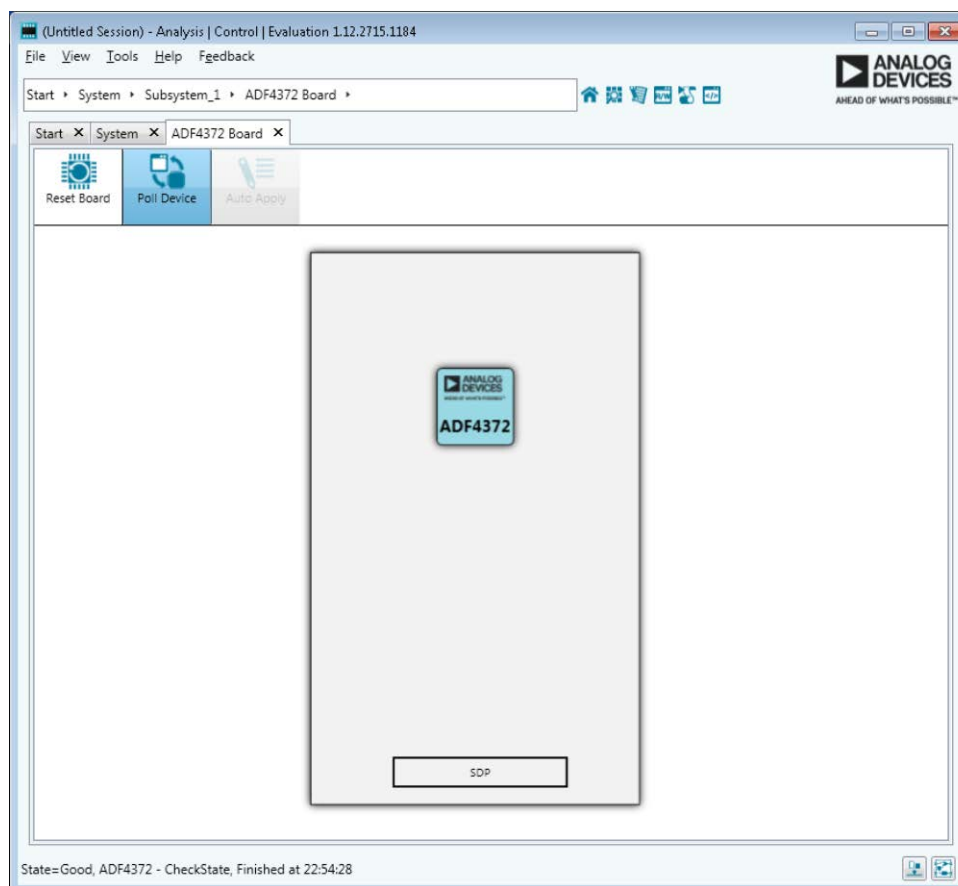

Figure 5. ACE Board Page, Device Selection
2. Double click the **ADF4372 Board** icon, and the tab shown in Figure 5 appears.